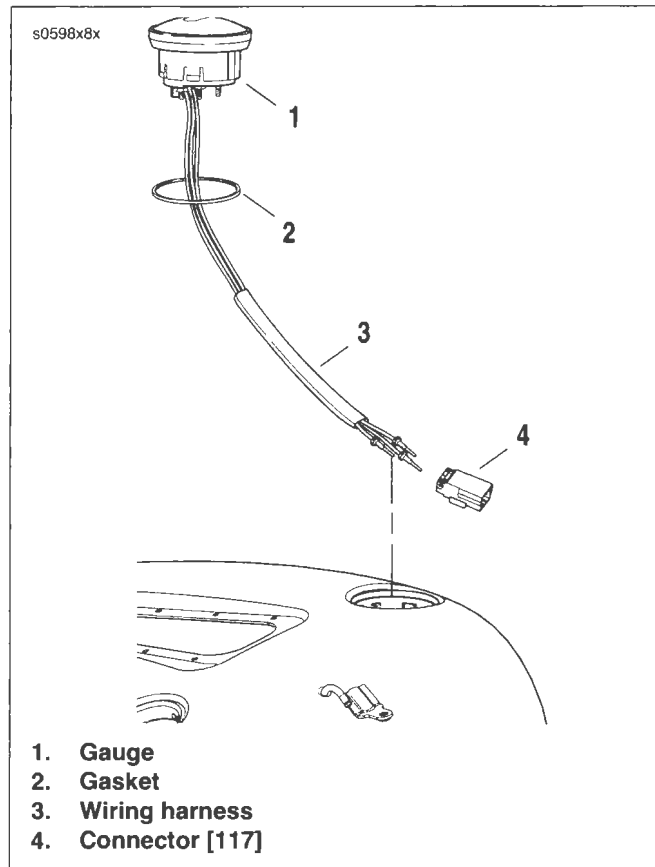

Figure 8-70. Fuel Gauge
- See Figure 8-70. Three wires attach to the bottom of the gauge (1).
6. See Figure 8-70. Pull up on gauge (1). Remove gauge, gasket (2) and wiring from fuel tank. Discard gasket.
1. See Figure 8-70. Install wiring harness (3) through new gasket (2).
3. While gently pulling on wiring harness, install gauge (1) and gasket by carefully moving gauge back and forth while pushing down at the same time.